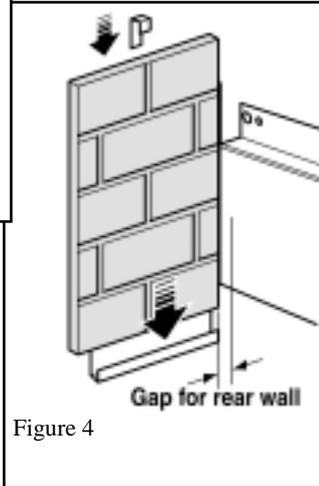

Figure 4
1. Fit one of the ceramic side walls into the slot of the ceramic support bracket at the far side of the firebox. Leave sufficient space to insert the edge of the rear wall behind the side wall. Fix the side wall into position using the retaining clamp. (See figure 4).